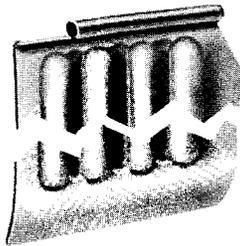

Fig. 11 — P-296792 Coin Shield
(1) Place P-247411 pin through tubular bearing at top of P-296792 shield. Curved-in portion on bottom of shield is toward hopper when loop of pin is to the front (see Fig. 11).
- (2) Hold loop of pin with long nose pliers or fingers and place coin shield pin in hole in rear of hopper.
- (3) Hold shield in place with fingers and secure end of loop in front hole of hopper with long nose pliers.
- (4) Adjust loop so that pin does not come out when play is taken up in either direction.
- (5) Check operation of shield.